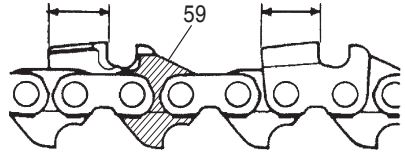

Fig. 50
- 5) Keep all cutters the same length. (Fig. 50)
- Do not file or alter the tops of bumper drive links (59) and guard tie strap (60) (Fig.50, 51).